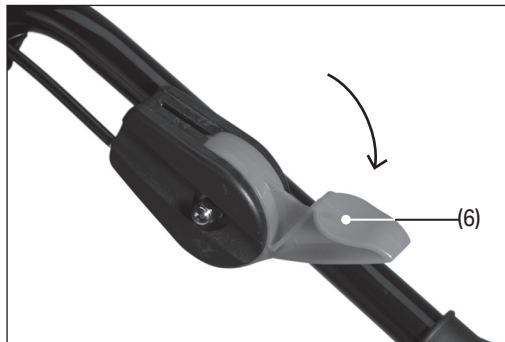

Fig. 22
To stop the machine in an emergency, push the engine control lever (6) downwards and towards you into the **STOP** position (Fig. 22).